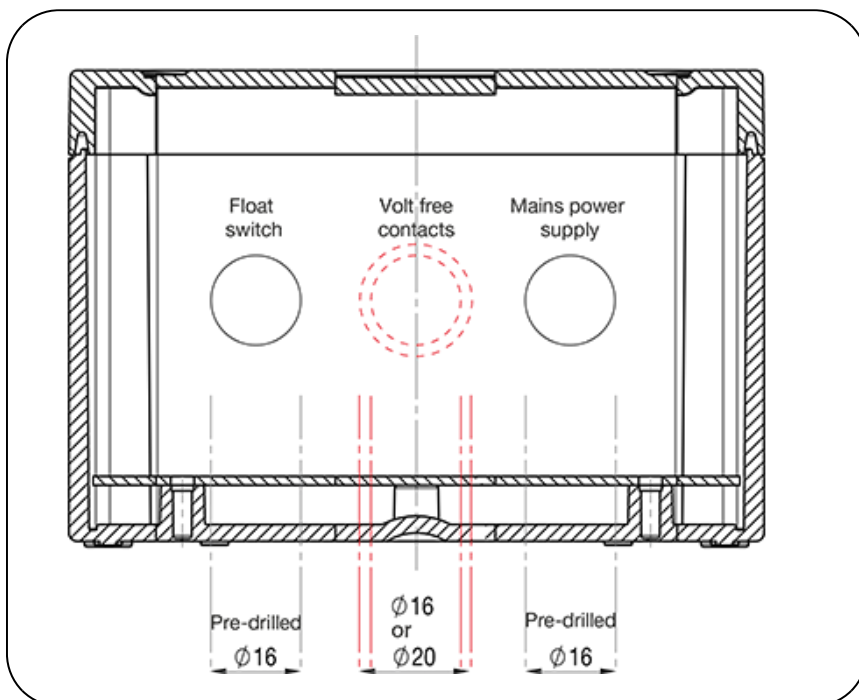

Fig.1 Drilling the mounting panel
- For the volt free contacts, you will need to drill the appropriate diameter hole **as shown in fig.1** to add the M16 or M20 cable gland. The cable gland required would depend on the diameter of signaling cable used.
1. Loosen the float switch cable gland located on the underside of the AquaSafe Alarm panel, as shown in fig.1.
1. Loosen the float switch cable gland located on the underside of the AquaSafe panel, as shown in fig.1.